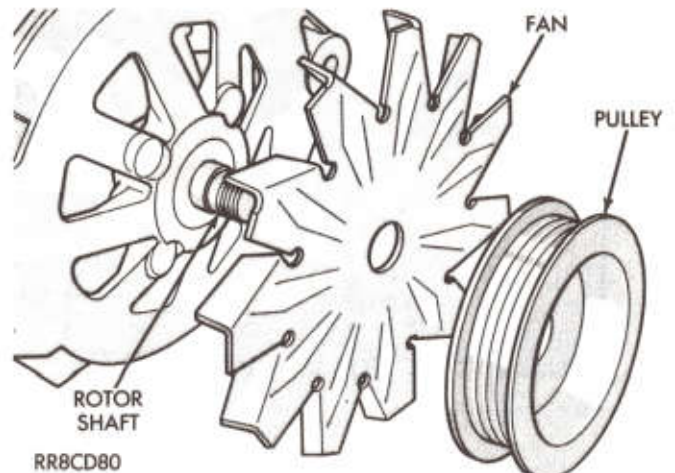

Fig. 12—Remove or Install Pulley and Fan
- (10) Remove pulley and fan from rotor (Fig. 12).